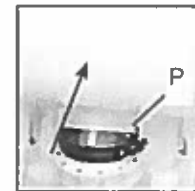

Figure 10.
11. Push pressure cylinder into the tank being careful not to pinch the large O-ring (P). Note: Wooden block may also be used for installation of the pressure cylinder. Figure 10.